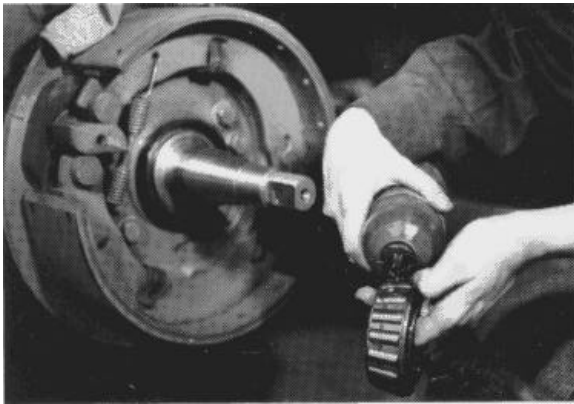

Figure 28 Install Pre-lubed Bearing
4. Install pre-lubed or grease packed inner bearing in position on the spindle. No additional lubrication is required (Figure 28).